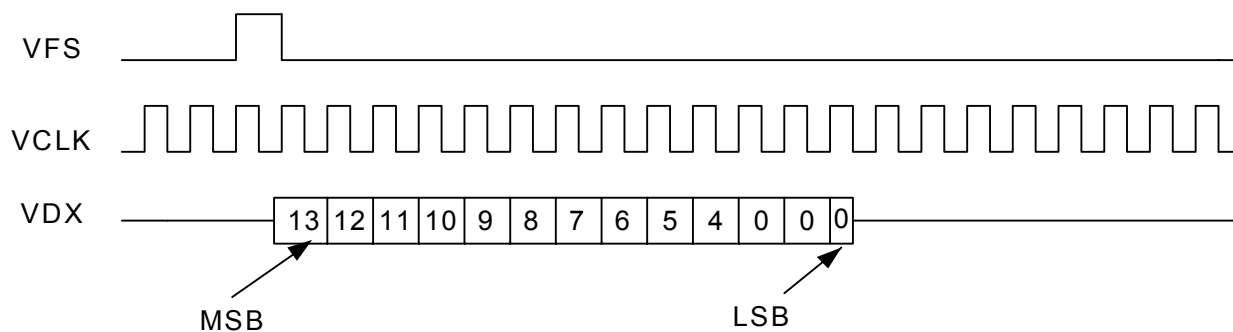
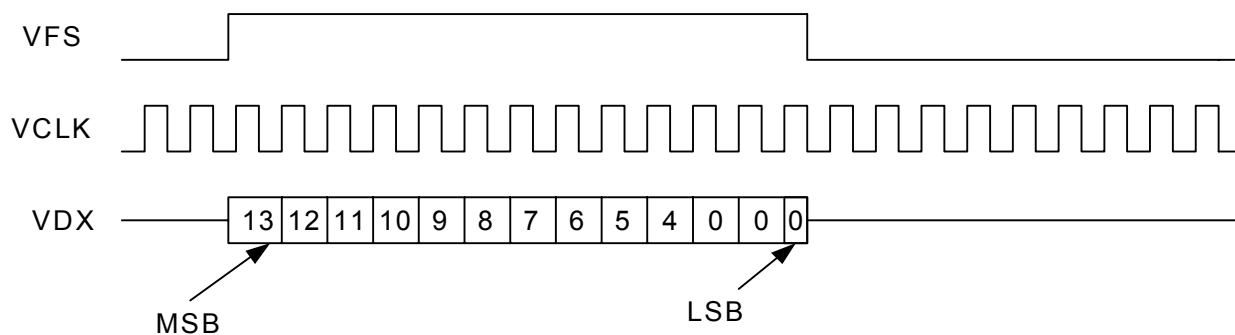

Figure 16. CODEC Protocol, 13 bit, Short Frame Sync.
Figure 17. CODEC Protocol, 13 bit, Long Frame Sync.
- The CODEC responds to both the Long and Short sync format (see Figure 16 and Figure 17).